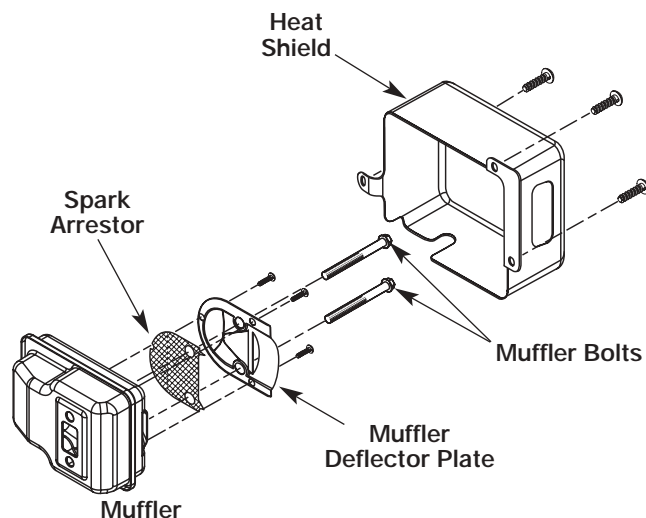

Fig. 14
4. Remove the remaining three screws that secure the muffler deflector plate to the muffler. Also remove the two bolts. Use a Phillips screwdriver for the screws and a T-25 torx screwdriver for the muffler bolts (Fig. 14).